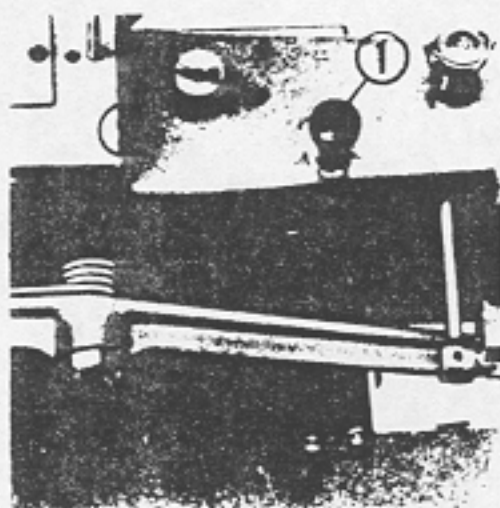

Fig. 11
The pressure of the presser feet can be regulated by the pressure adjusting screw 1, Fig. 11. To increase the pressure, turn this screw over to the right; to decrease, turn to the left.
The length of stitch is regulated by the feed regulating button (2), Fig. 11. Rotate the hand wheel slowly by pressing this button until the tip of the button enters completely into the groove of the feed eccentric. When it is completely in, rotate the hand wheel with the push button in the pushed-in condition until the vibrating presser foot amount becomes equal to that of the lifting presser foot amount.
The lifting presser foot amount is adjusted by the button (3), Fig. 11.
When this happens, push the auxiliary hand wheel and turn it toward the left as you push the safety clutch button (Fig. 11 (4)) on the bed of the machine, and the safety clutch will be set and the machine will run normally again.